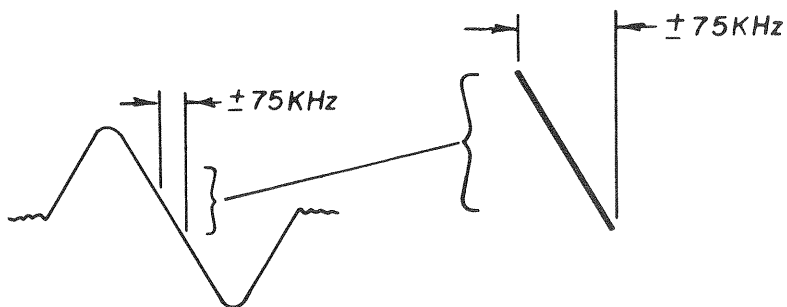

Figure 4
5. To align the FM Detector, with the FM generator connected as in Step 1, move the oscilloscope to the record output jack on rear panel. Reduce the modulation to $\pm 75\text{KHz}$ and connect a DC VTVM to the detector output (OUT 1). Adjust the top core of the detector transformer (T201) for a zero indication on the DC VTVM and the bottom core of the detector transformer (T201) for a maximum gain and linearity (see Figure 4).